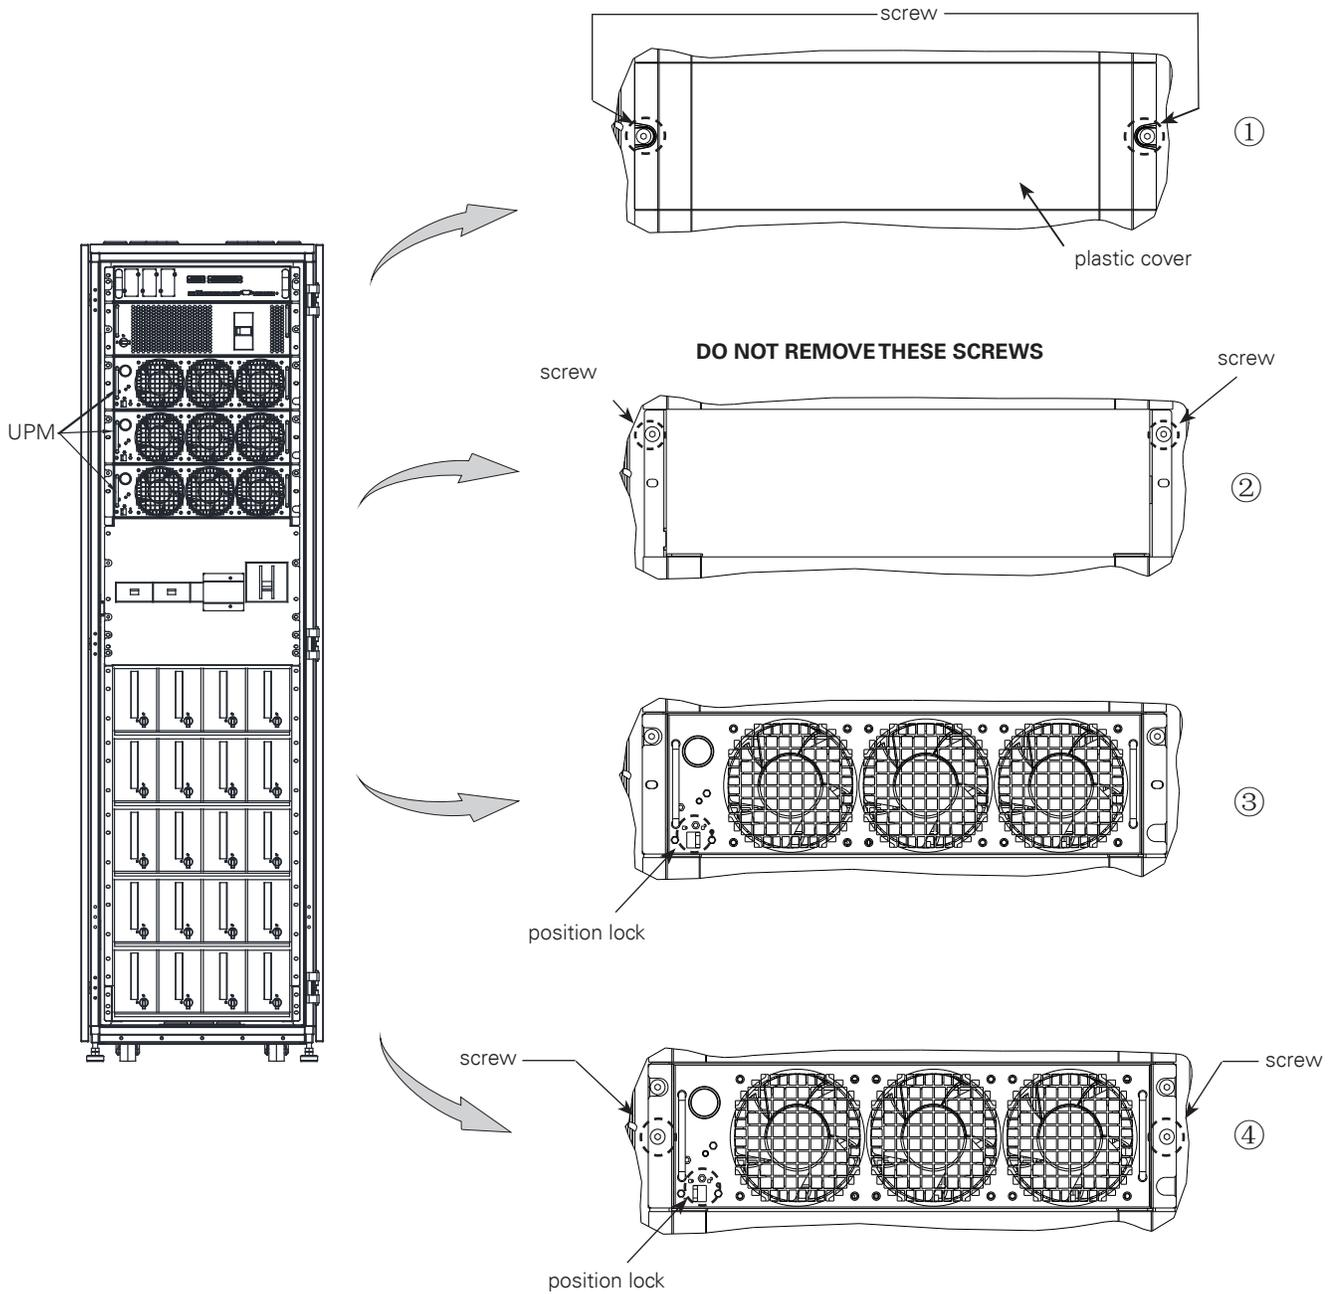

Figure 6-8: UPM Module Location
2. Remove 2pcs screw shown above and take plastic cover away. We can see the view from the front and 3 screws pre-installed, see Figure. 6-8 ② .
4. After UPM is installed, switch UPM lock in lock state, see Figure. 6-8 ③ .
5. Right side is unlock state and the other side is lock state, see Figure. 6-8 ④ .
6. Fix 2pcs screws to finish the installation and set the position lock located on the front panel of the module to “  ” (see Figure. 6-8).